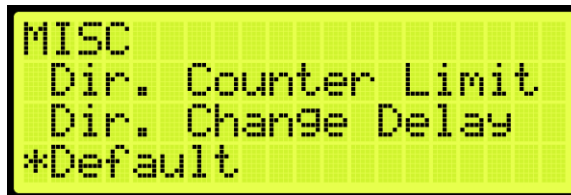

Figure 457: MISCELLANEOUS Menu – Default
- From the MISCELLANEOUS menu, scroll and select Default (See Figure 457).
2. From the MISCELLANEOUS menu, scroll and select Default (See Figure 457).